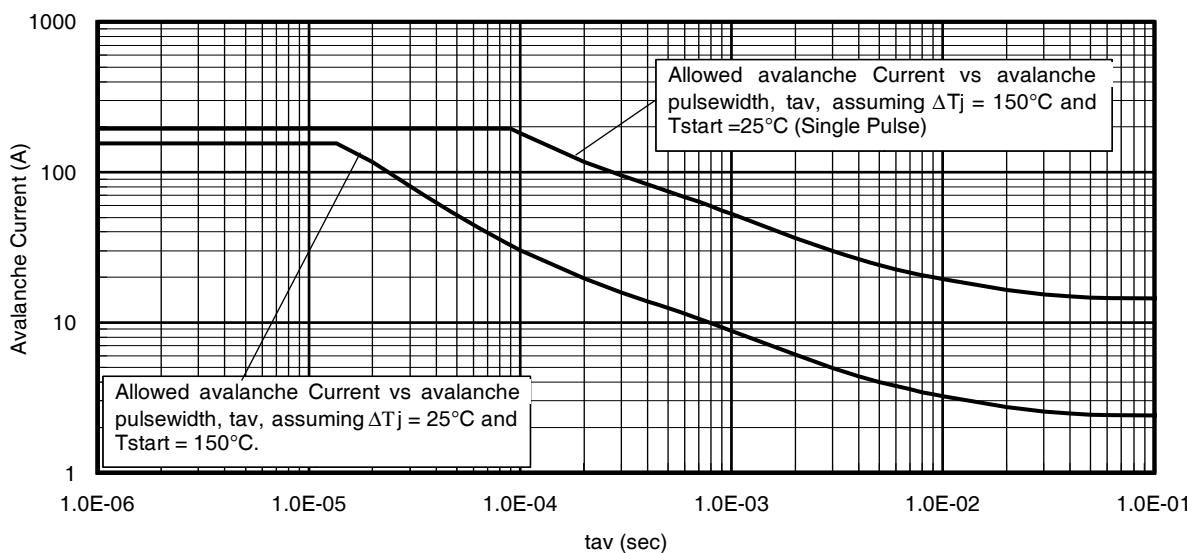

Fig 15. Avalanche Current vs.Pulsewidth
**Notes on Repetitive Avalanche Curves , Figures 15, 16:
7. ΔT = Allowable rise in junction temperature, not to exceed T_{jmax} (assumed as 25°C in Figure 15, 16).